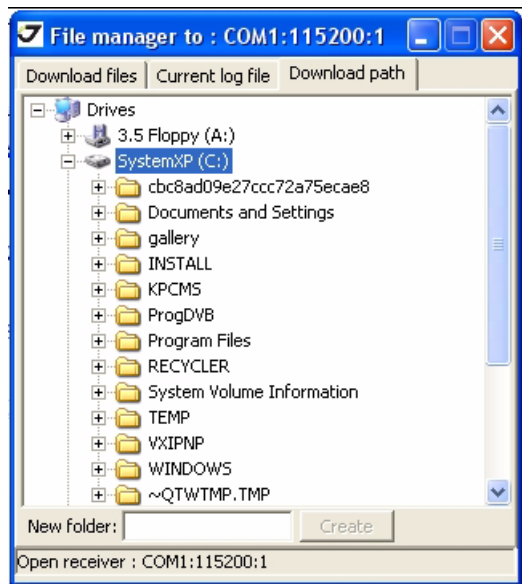

Figure 5-2. Download path tab
4. Navigate to or create (using the *Create* button) the folder in which to download and store files (Figure 5-2).